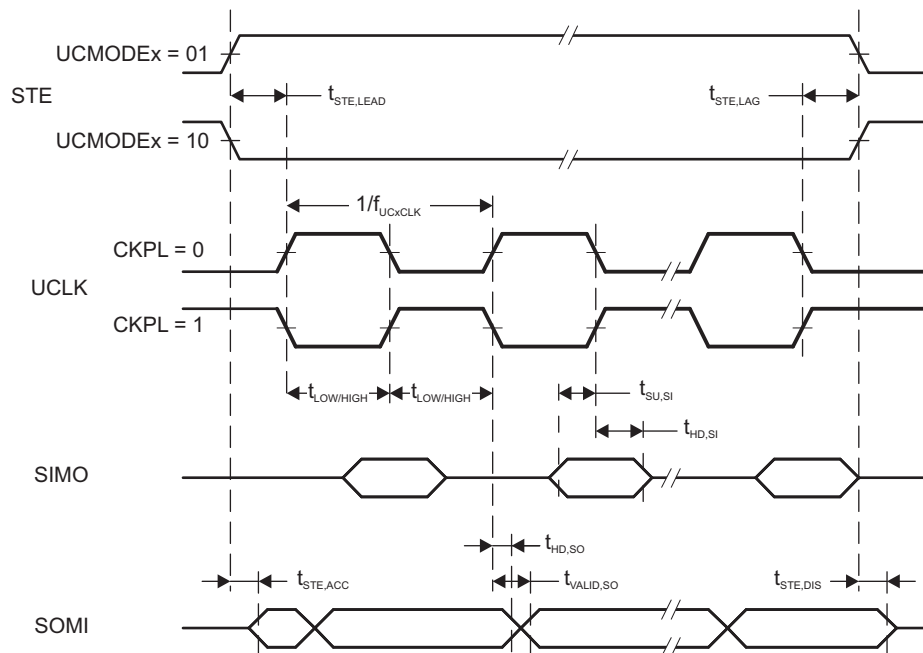

Figure 5-71. SPI Slave Mode, CKPH = 0
(2) Specifies the time to drive the next valid data to the SOMI output after the output changing UCLK clock edge. See the timing diagrams in Figure 5-71 and Figure 5-72.
(3) Specifies how long data on the SOMI output is valid after the output changing UCLK clock edge. See the timing diagrams in Figure 5-71 and Figure 5-72.